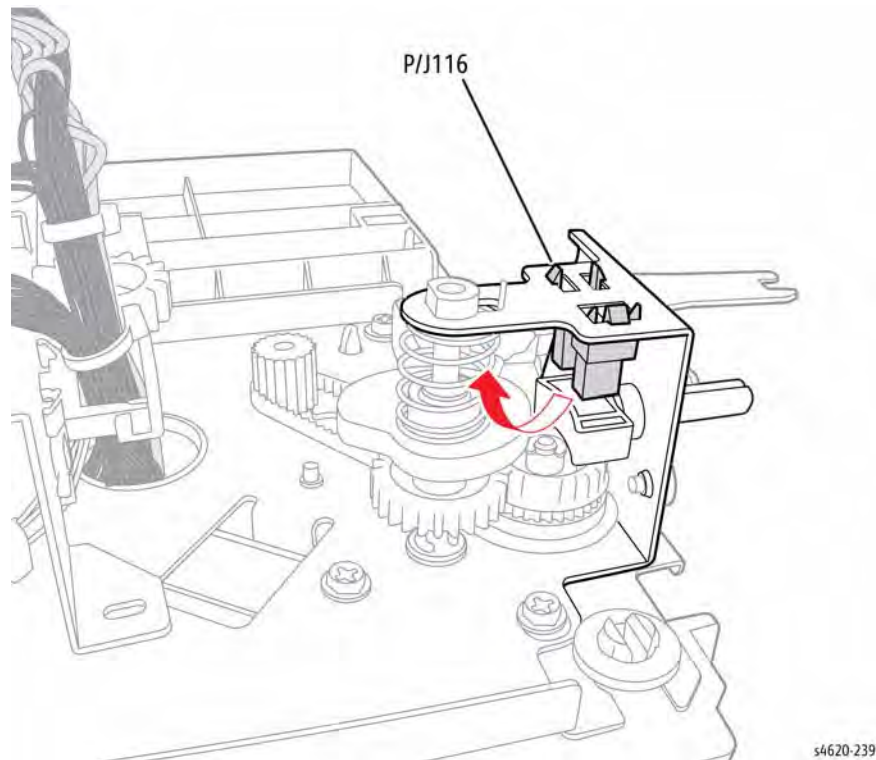

Figure 1 Remove the Exit Gate Sensor
3. Disconnect P/J116 and release 3 hooks that secure the sensor to the bracket, Figure 1.